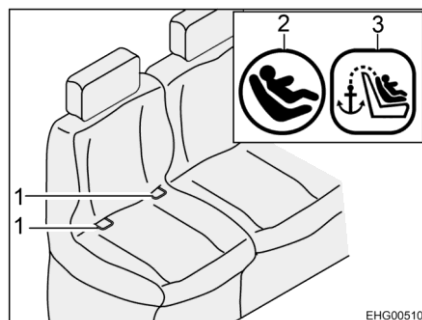
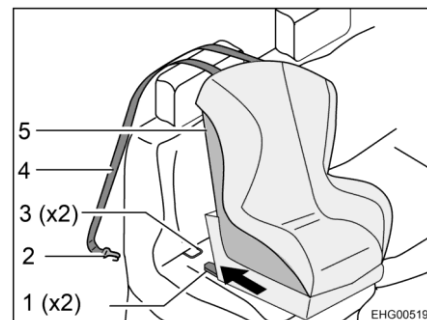

Fig. 10 Seat with ISOFIX
Fig. 11 Fastening with top tether
- Have the connectors (Fig. 11,1) snap into the retaining clips (Fig. 10,1 and Fig. 11,3). While doing this, a distinctive click must be heard.
- With a strong jerk, check if the child seat (Fig. 11,5) is firmly connected.
- Route top tether strap (Fig. 11,4) over the headrest of the vehicle seat.
- Hook the fixing hook (Fig. 11,2) onto the attachment point on the back of the vehicle seat.